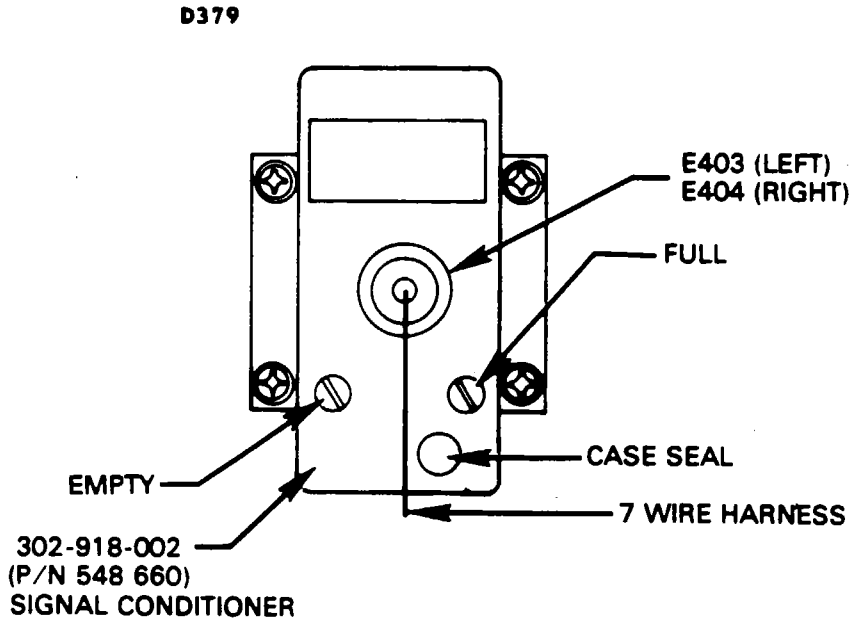

Figure 28-23. Signal Conditioner
8. Remove Barfield unit. Hook up ship system and add 2½ gallons of fuel to each side. Adjust quantity indicator to read zero (needle lined up with the inside edge of the white zero line) by adjusting the EMPTY screw on the signal conditioner (refer to figure 28-23).
9. Reinstall test equipment. Add 44.4 pf to the capacitance obtained from step 6 to simulate 120 +/- 2 gallons by adjusting the FULL screw on the signal conditioner (refer to figure 28-23). If no adjustment is necessary, stop with this step.
5. Add 2½ gallons of fuel to each side. Wait ten minutes and adjust indicator (if necessary) to read zero by adjusting the EMPTY screw on the signal conditioner (refer to figure 28-23).
7. Adjust when full by adjusting the FULL screw on the signal conditioner (see figure 28-23) to agree with the known weight of fuel added. Do not make any adjustment at full if accuracy of indicator is within +/- 30 pounds of known weight. Make no adjustment in excess of +/- 45 pounds.